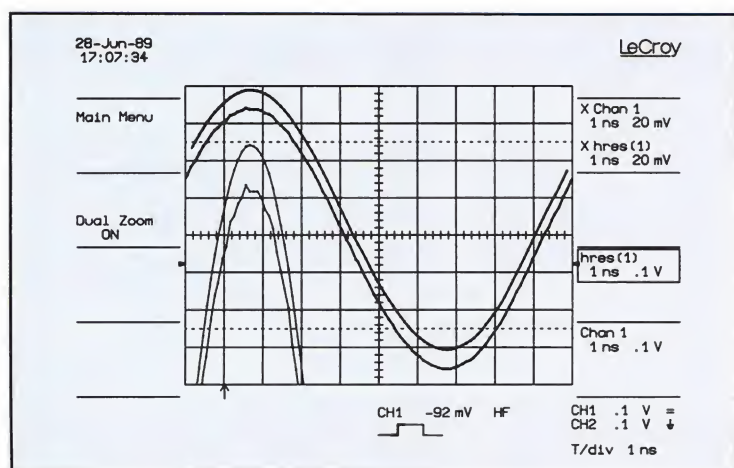

Figure 5: Improvement of the noise present in a RIS waveform when viewed with vertical expansion.
**High Resolution on Random-Interleaved Sampled (RIS) Waveforms** - High Resolution can almost always be used on RIS waveforms without any loss of bandwidth because the RIS traces are usually highly oversampled with respect to the analog bandwidth of the oscilloscope. For example, at least one bit enhancement can always be used for RIS waveforms with a timebase of 1  $\mu$ s/div or faster. This is illustrated in Figure 5 where a 100 MHz signal is displayed with (top trace) and without (second trace) 1-bit High Resolution enhancement. The improvement can easily be seen on the 5 times vertically expanded traces shown below. In this case the -3 dB bandwidth of the digital High Resolution filter was 1 GHz, and thus it has no significant effect on the signal bandwidth of the instrument.